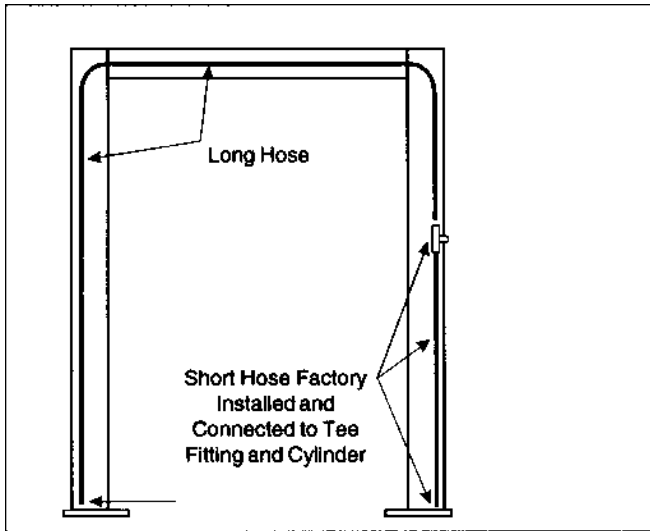

Figure 10 - Hydraulic Hose Connections
1. Run the female end of the hose up the inside back of the offside post to the top and behind the corner brace in the post extension. Refer to Figure 10.